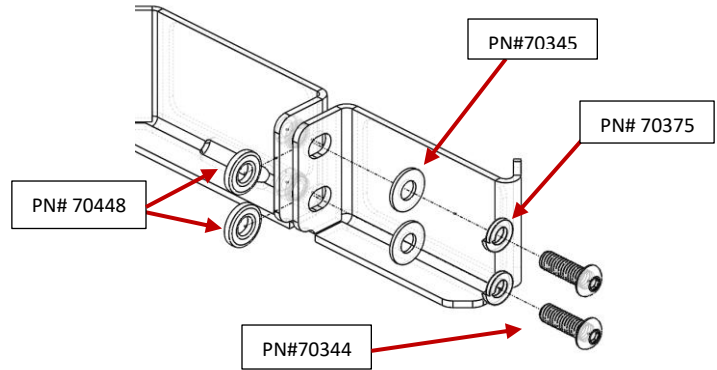

Figure 2: Tension Bar Bracket Hardware
11. Loosely bolt short hook bracket to tension bar using two (2) 5/16"-18 x 1" Button Head Bolt fasteners [PN 70344] (Figure 2 and 3).